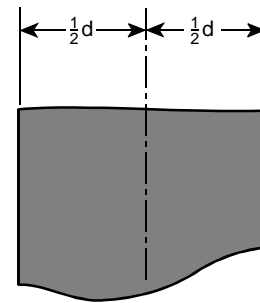

Figure 2-2. Segment Centerline
- Locate the center line of each segment at $\frac{1}{2}d$ (Figure 2-2).